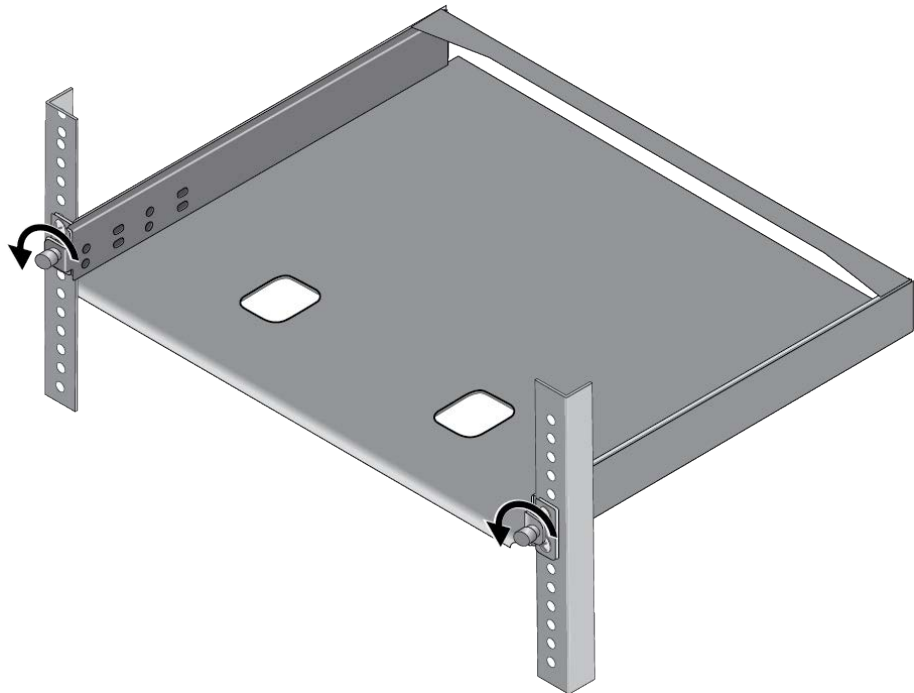

Figure 35. Loosening the Two Thumbscrews on the Front of the RKMT-J15 Bracket
2. Loosen the two thumbscrews on the front of the bracket. Refer to Figure 35.